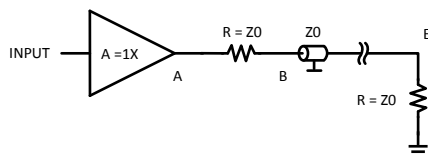
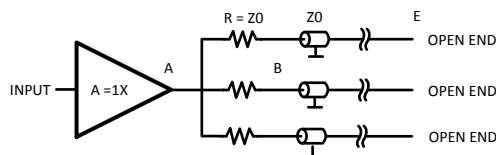
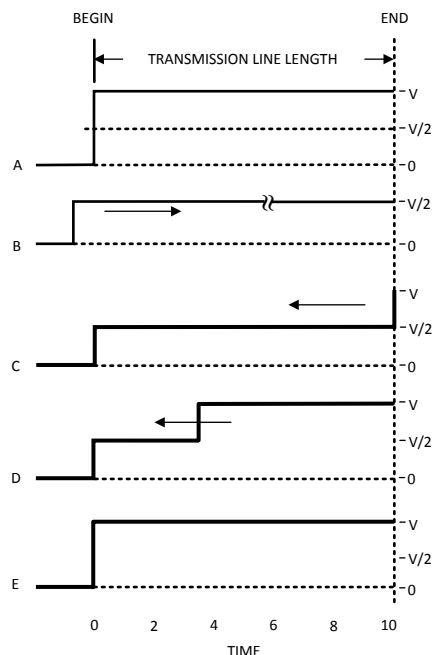

Figure 35.
Figure 37.
Figure 40.
- Use one buffer to drive one transmission line (see Figure 35)
- Use one buffer to drive several transmission lines each driving a different receiver. (see Figure 37)
In most cases, it is unrealistic to think that we can place a driver or buffer so close to the load that we don't need a transmission line to transport the signal. The pcb trace length between a driver and the load may affect operation depending upon the operating frequency. Sometimes it is possible to do measurements by connecting the DUT directly to the analyzer. As frequencies become higher the short lines from the DUT to the analyzer become long lines. When this happens there is a need to use transmission lines. The next point to examine is what happens when the load is connected to the transmission line. When driving a load, it is important to match the line and load impedance, otherwise reflections will occur and this phenomena will distort the signal. If a transient is applied at  $T = 0$  (Figure 40, trace A) the resultant waveform may be observed at the start point of the transmission line. At this point (begin) on the transmission line the voltage increases to  $(V)$  and the wave front travels along the transmission line and arrives at the load at  $T = 10$ . At any point across along the line  $I = V/Z_0$ , where  $Z_0$  is the impedance of the transmission line. For an applied transient of 2V with  $Z_0 = 50\Omega$  the current from the buffer output stage is 40mA. Many vintage op amps cannot deliver this level of current because of an output current limitation of about 20mA or even less. At  $T = 10$  the wave front arrives at the load. Since the load is perfectly matched to the transmission line all of the current traveling across the line will be absorbed and there will be no reflections. In this case source and load voltages are exactly the same. When the load and the transmission line have unequal values of impedance a different situation results. Remember there is another basic which says that energy cannot be lost. The power in the transmission line is  $P = V^2/R$ . In our example the total power is  $2^2/50 = 80\text{mW}$ . Assume a load of  $75\Omega$ . In that case a power of 80mW arrives at the  $75\Omega$  load and causes a voltage of the proper amplitude to maintain the incoming power.
Many applications, such as video, use a series resistance between the driver and the transmission line (see Figure 35). In this case the transmission line is terminated with the characteristic impedance at both ends of the line. See Figure 40, trace B. The voltage traveling through the transmission line is half the voltage seen at the output of the buffer, because the series resistor in combination with  $Z_0$  forms a two-to-one voltage divider. The result is a loss of 6dB. For video applications, amplifier gain is set to 2 in order to realize an overall gain of 1. Many operational amplifiers have a relatively flat frequency response when set to a gain of two compared to unity gain. In trace B it is seen that, if the voltage reaches the end of the transmission line, the line is perfectly matched and no reflections will occur. The end point voltage stays at half the output voltage of the opamp or buffer.
Another way to reach several points via a transmission line is to start several lines from one buffer output (see Figure 37). This is possible only if the output can deliver the needed current into the sum of all transmission lines. As can be seen in this figure there is a series termination used at the beginning of the transmission line and the end of the line has no termination. This means that only the signal at the endpoint is usable because at all other points the reflected signal will cause distortion over the line. Only at the endpoint will the measured signal be the same as at the startpoint. Referring to Figure 40, trace C, the signal at the beginning of the line has a value of  $V/2$  and at  $T = 0$  this voltage starts traveling towards the end of the transmission line. Once at the endpoint the line has no termination and 100% reflection will occur. At  $T = 10$  the reflection causes the signal to jump to  $2V$  and to start traveling back along the line to the buffer (see Figure 40, trace D). Once the wavefront reaches the series termination resistor, provided the termination value is  $Z_0$ , the wavefront undergoes total absorption by the termination. This is only true if the output impedance of the buffer/driver is low in comparison to the characteristic impedance  $Z_0$ . At this moment the voltage in the whole transmission line has the nominal value of  $2V$  (see Figure 40, trace E). If the three transmission lines each have a different length the particular point in time at which the voltage at the series termination resistor jumps to  $2V$  is different for each case. However, this transient is not transferred to the other lines because the output of the buffer is low and this transient is highly attenuated by the combination of the termination resistor and the output impedance of the buffer. A simple calculation illustrates the point. Assume that the output impedance is  $5\Omega$ . For the frequency of interest the attenuation is  $V_B/V_A = 55/5 = 11$ , where A and B are the points in Figure 37. In this case the voltage caused by the reflection is  $2/11 = 0.18V$ . This voltage is transferred to the remaining transmission lines in sequence and following the same rules as before this voltage is seen at the end points of those lines. The lower the output resistance the higher the decoupling between the different lines. Furthermore one can see that at the endpoint of these transmission lines there is a normal transient equal to the original transient at the beginning point. However at all other points of the transmission line there is a step voltage at different distances from the startpoint depending at what point this is measured (see Figure 40, trace D).